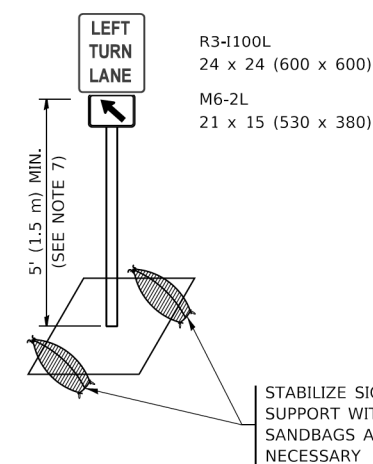

**FIGURE 2**
B) WHEN "L" IS > THE STORAGE LENGTH OF THE TURN LANE OR THE TURN LANE IS WITHIN THE LANE CLOSURE, USE FIGURE 2.
2. CONES MAY BE SUBSTITUTED FOR BARRICADES OR DRUMS AT HALF THE SPACING DURING DAY OPERATIONS. CONES SHALL BE A MINIMUM OF 28 (710) IN HEIGHT.
4. REFLECTIVE TEMPORARY PAVEMENT MARKINGS SHALL BE PLACED THROUGHOUT THE BARRICADED AREAS OF EACH TURN BAY AS SHOWN WHERE THE CLOSURE TIME IS GREATER THAN FOURTEEN (14) DAYS.
5. THIS APPLICATION ALSO APPLIES WHEN WORK IS BEING PERFORMED IN THE RIGHT LANE(S) AND THE RIGHT TURN BAY IS TO REMAIN OPEN. UNDER THIS CONDITION, "RIGHT TURN LANE" R3-1100R 24 x 24 (600 x 600) AND M6-2R 21 x 15 (530 x 380) SHALL BE USED.